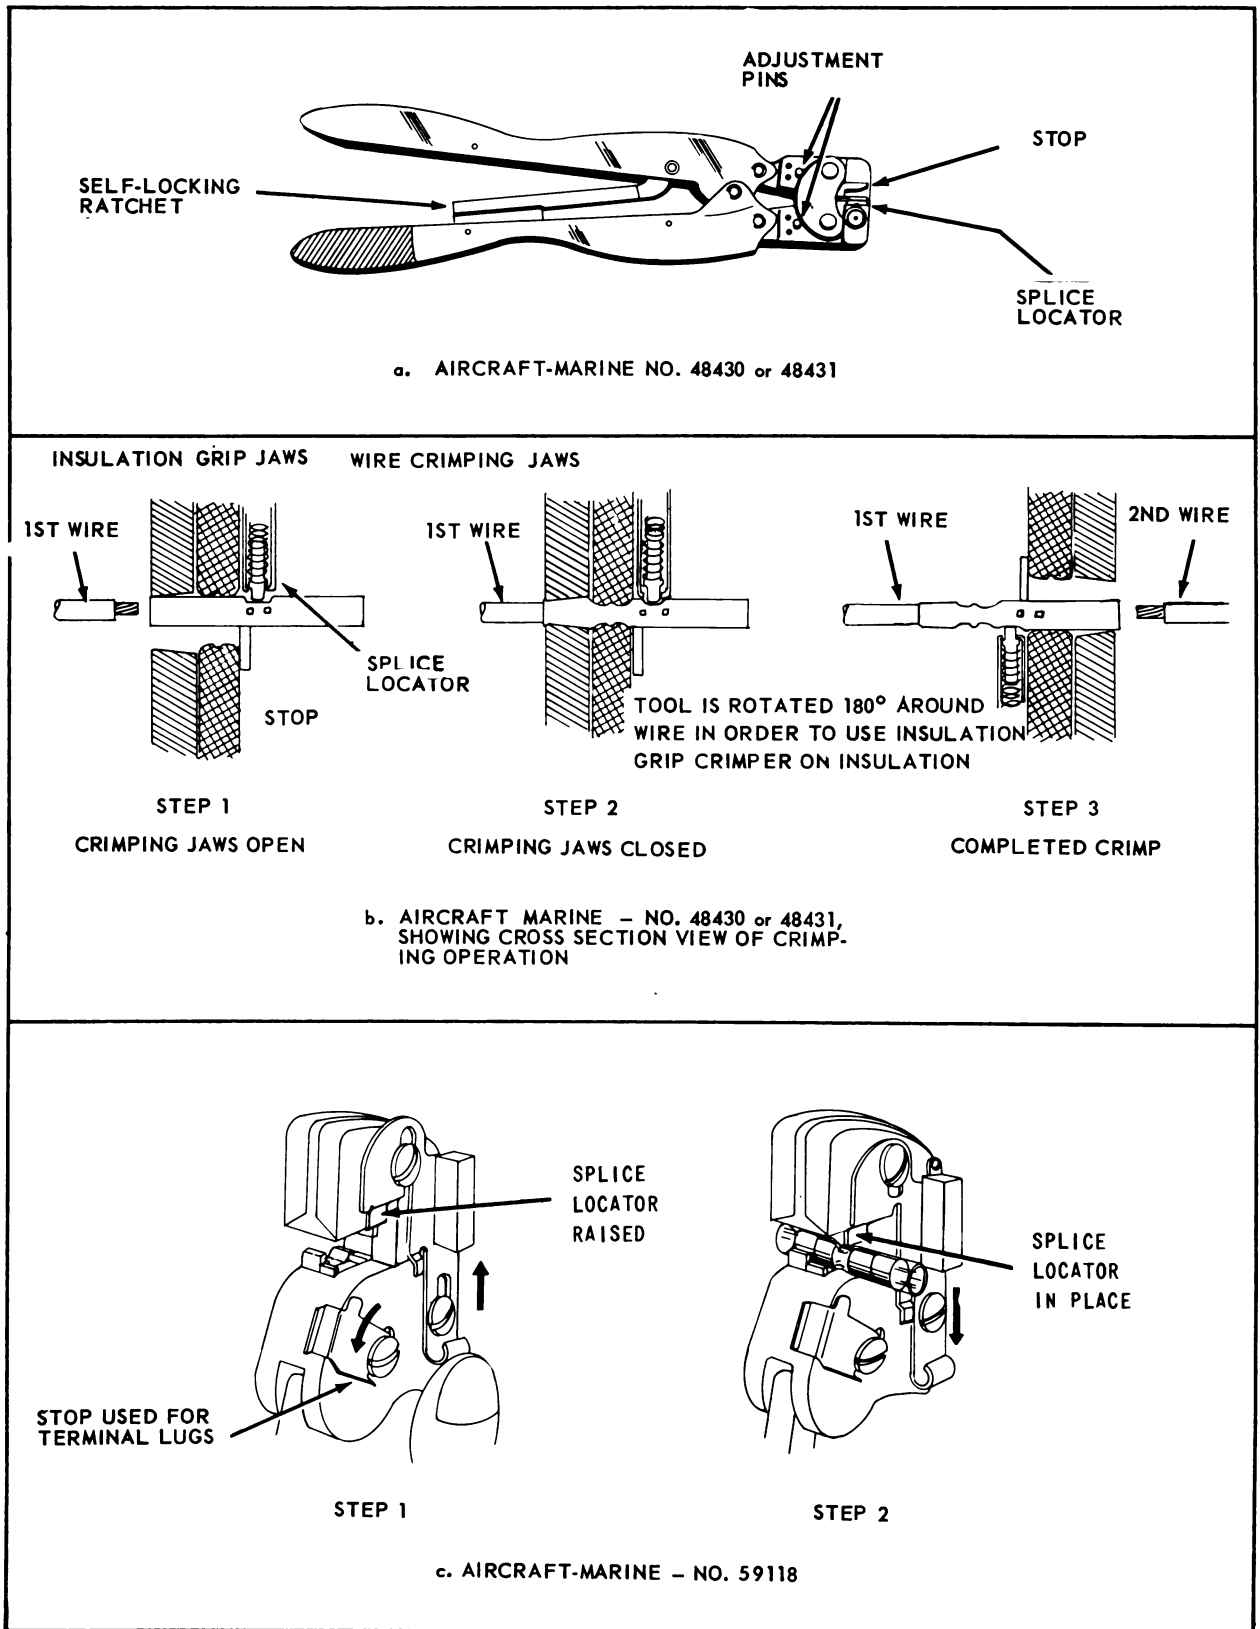

Figure 5-15. Tools - Hand Crimping - With Splice Locator
assembly with sleeves made of transparent flexible tubing. This sleeving provides electrical and mechanical protection to the connection. Cut to length in accordance with Table LIII. Sleeve to be centered over splice and tied at both ends with lacing cord. See Figure 5-15.
3. Insulating sleeve is secured at both ends. See Figure 5-15.